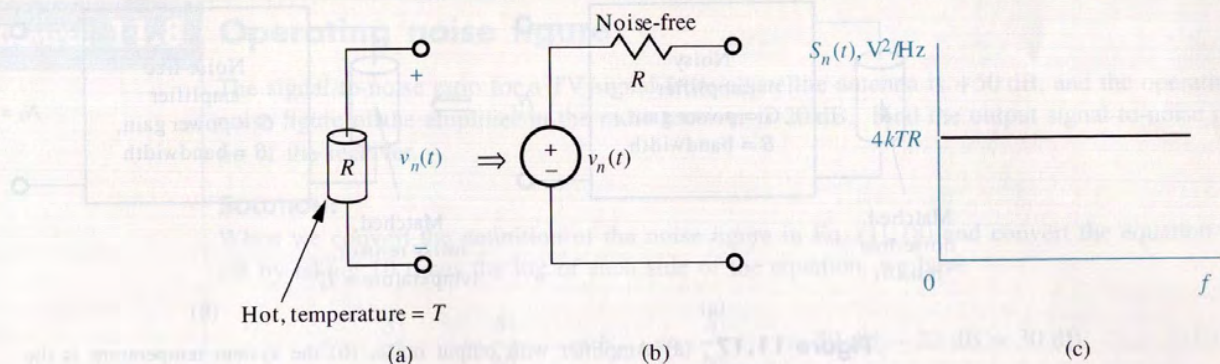

Figure 11.16 (a) A noisy resistor; (b) Thévenin equivalent circuit of a noisy resistor; (c) power spectrum of thermal noise.
Thermal noise. The thermal radiation of resistors plays an important role in the description of noise because resistors provide a simple calibration for noise signals. Figure 11.16(a) shows a resistor, R , and indicates the noise voltage generated by the thermal motion of the carriers in the resistor. The Thévenin equivalent circuit in Fig. 11.16(b) separates the noise voltage from the resistance, which here is noise-free. The power spectrum of the noise voltage in volts²/hertz is shown in Fig. 11.16(c),
- The intensity of the power spectrum is proportional to the resistance. For this reason, large values of resistance are avoided in sensitive electronic amplifiers. The *available power* out of a circuit is the maximum power that the circuit is capable of delivering into a matched load (see Chapter 2, page 69). The available power spectrum from the circuit in Fig. 11.16(b) is.